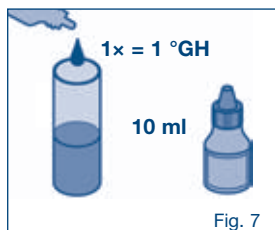

Fig. 7
- The total hardness can be requested from the water supplier or established by means of a quick test (droplet test, Fig. 7). The bypass setting can be selected based on the total hardness and its application. The typical filter capacities are shown in Table 1–3 in Section 10.